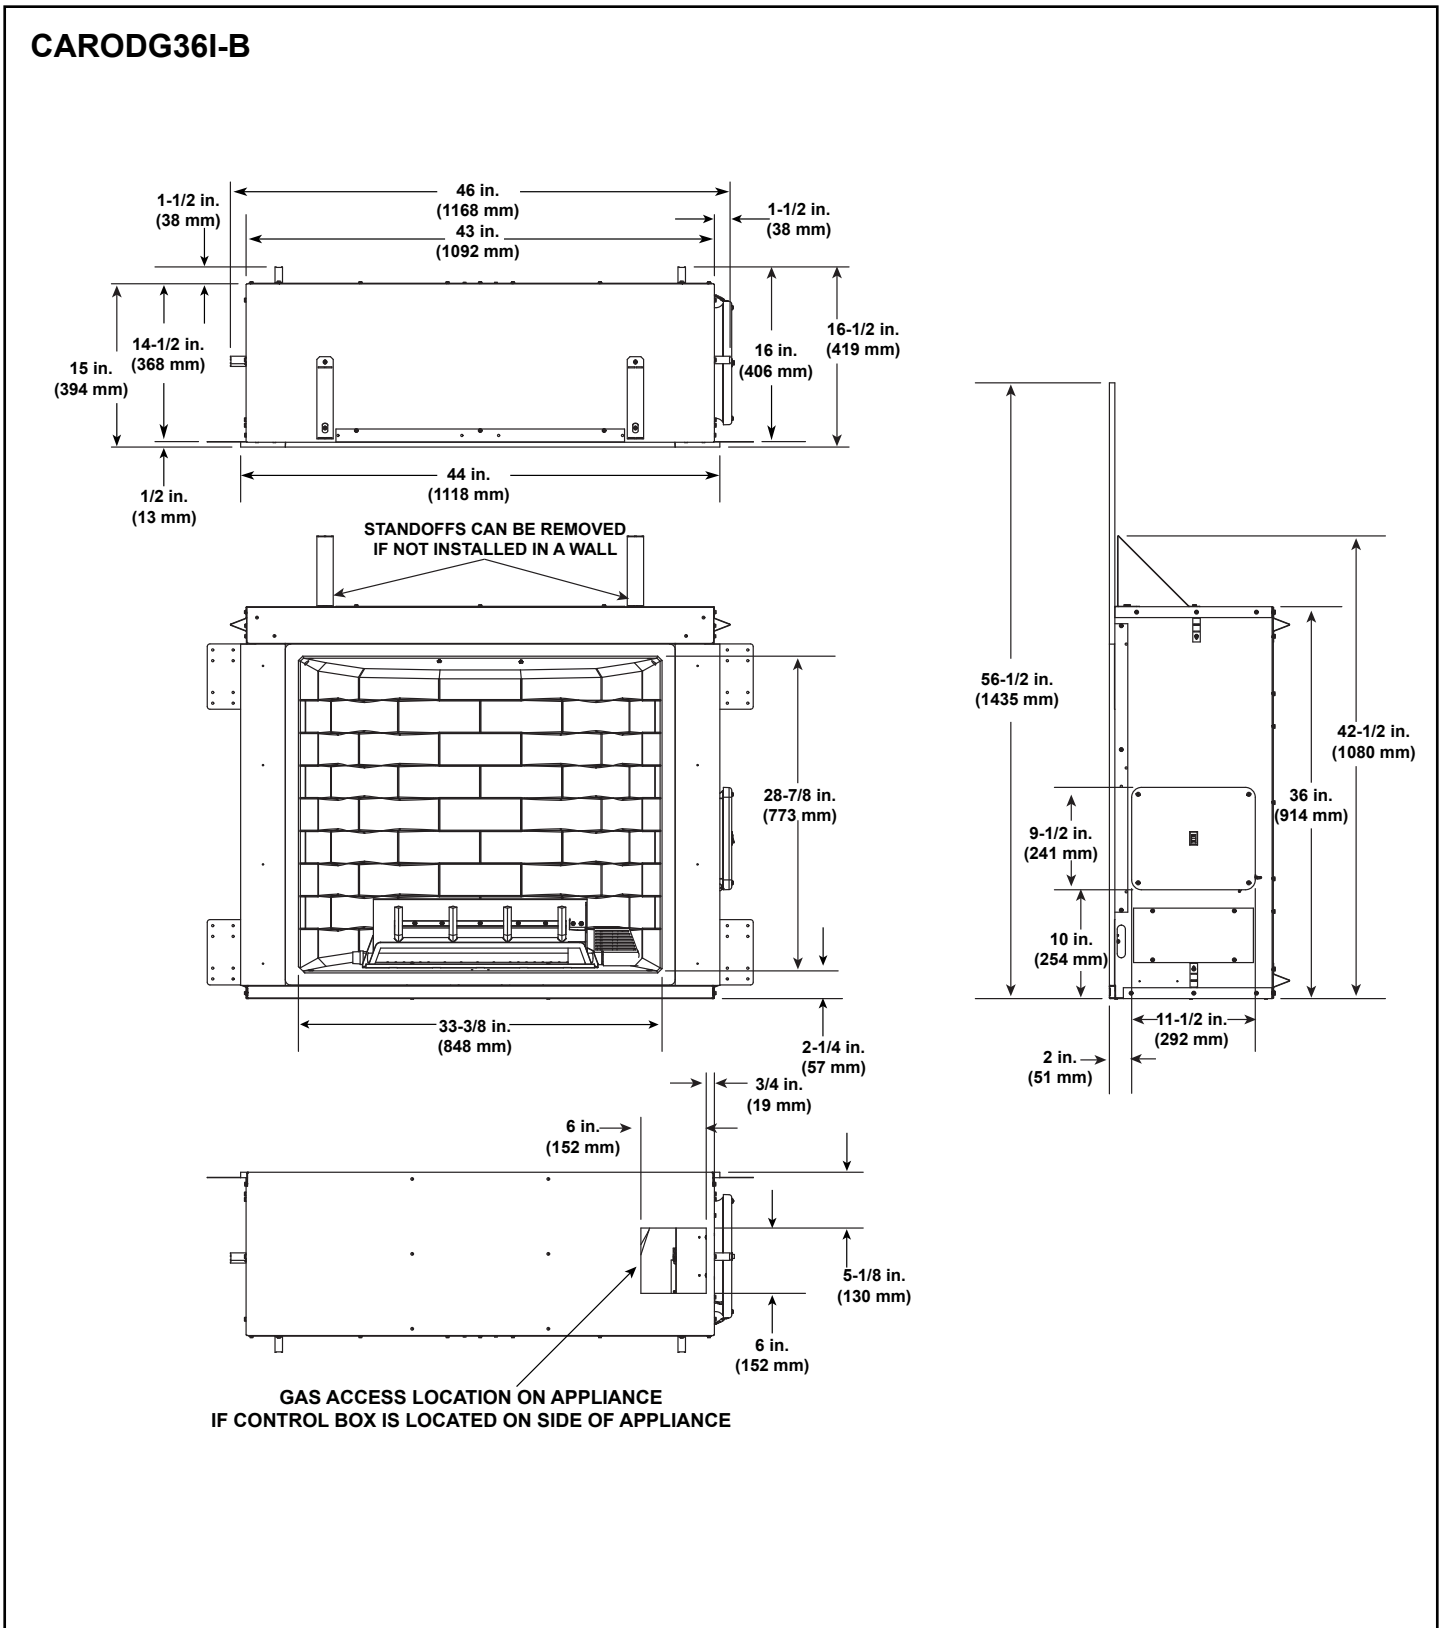

Figure 3.1 Appliance Dimensions - CARODG36I-B
- Flash the perimeter of the appliance, corners and the appliance face in a manner consistent with regional practices as required to prevent water penetration around the appliance or manage water that may penetrate the appliance. See Section 3.D. and Figure 3.1 (CARODG36I-B) and 3.2 (CARODG42I-B) for more information regarding wall and enclosure construction.
- See Section 3.F. and Figures 3.1 and 3.2 for more information regarding wall and enclosure construction required to prevent moisture penetration into the structure. The appliance will shed moderate amounts of water but is not waterproof.